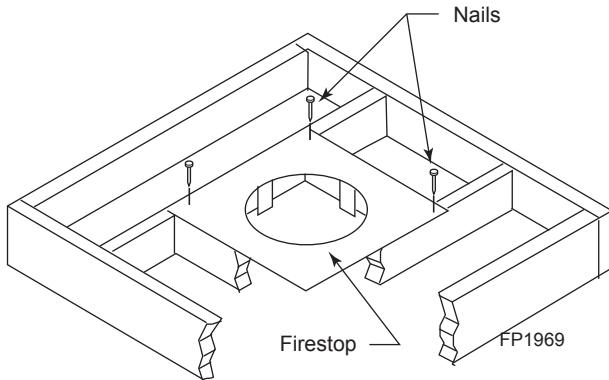
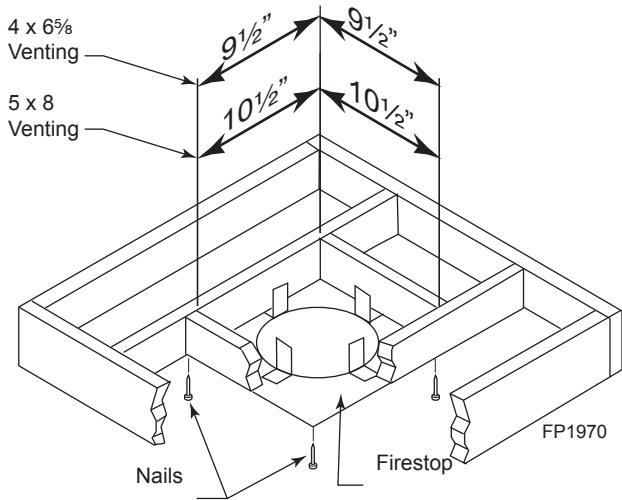

Figure 33 -
Figure 34 -
- Cut a 10½" (267 mm) square hole in the ceiling using the locating hole as a center point. The opening should be framed to 10½" x 10½" (267 x 267 mm) inside dimensions as shown in *Figure 34* using framing lumber the same size as the ceiling joist. If the area above the ceiling is an insulated ceiling or a room, nail firestop from the top side. This prevents loose insulation from falling into the required clearance space. *Figure 33*. Otherwise, install firestop below the framed hole. The firestop should be installed with no less than three nails per side. *Figure 34*